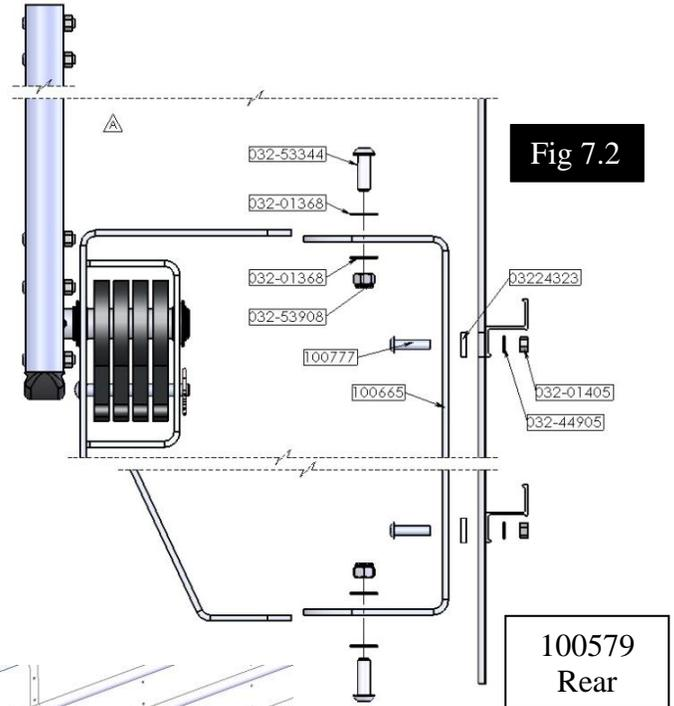

Fig 7.2
3. If you have a straight back trailer bolt the rear outer bracket to the inner bracket using the four 1/2" hex head bolts, lock nuts, and washers provided. Tighten the fasteners until they are snug but not tight. It will appear as shown in the figure 7.2.
4. If you have a slant nose trailer, bolt the front outer bracket on using two 1/2" bolts and nuts and washers as shown in fig. 7.2 in the lower bolt holes. Tighten the fasteners until they are snug but not tight.